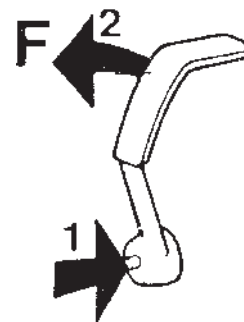

Fig. 21. Disengaging the reverse gear from the control.
3. Check that the charging warning lamp (16) goes out.
4. Keep the button (1, fig. 21) on the control pushed in and pull the control lever to neutral.